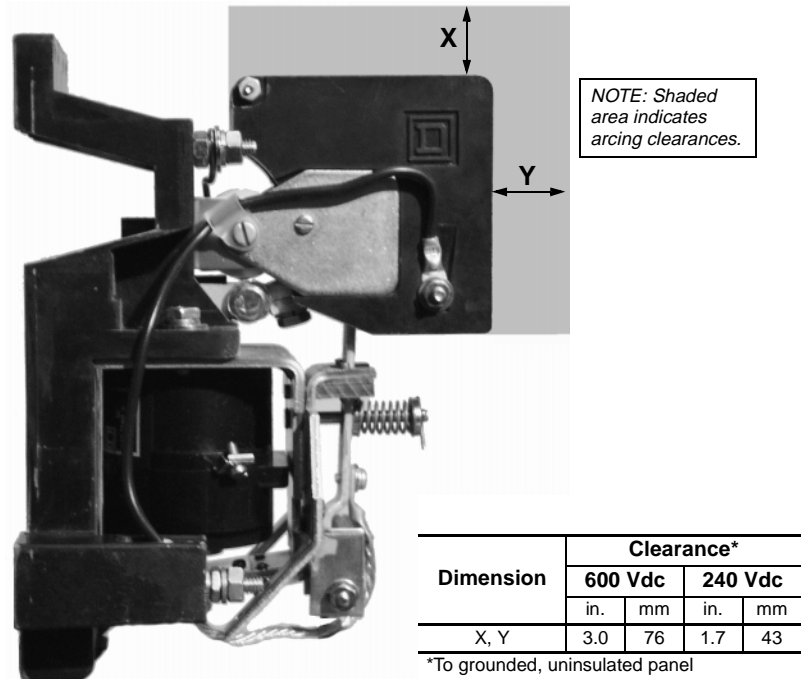

Figure 1: Electrical Clearances
2. Inspect the nameplate data for correct equipment. Visually verify that the contactor operating coil (32) is the correct voltage. The operating coil circuit voltage may differ from the power circuit voltage.
4. Mount the contactor vertically on a rigid support and fasten it down tightly using a plain washer against the contactor base. Provide the clearances shown in Figure 1 above the top of the contactor and in front of the arc chute.